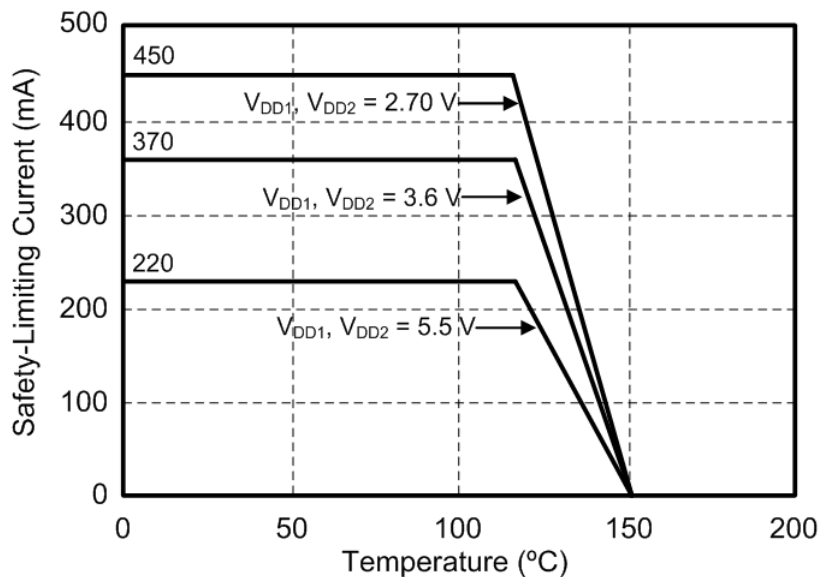

Figure 4.4. (WB SOIC-16) Thermal Derating Curve, Dependence of Safety Limiting Values with Case Temperature per DIN EN 60747-5-5/VDE 0884-10, as Applies
1. Maximum value allowed in the event of a failure; also see the thermal derating curve in [Figure 4.4 \(WB SOIC-16\) Thermal Derating Curve, Dependence of Safety Limiting Values with Case Temperature per DIN EN 60747-5-5/VDE 0884-10, as Applies on page 24](#) and [Figure 4.5 \(NB SOIC-16\) Thermal Derating Curve, Dependence of Safety Limiting Values with Case Temperature per DIN EN 60747-5-5/VDE 0884-10, as Applies on page 24](#).